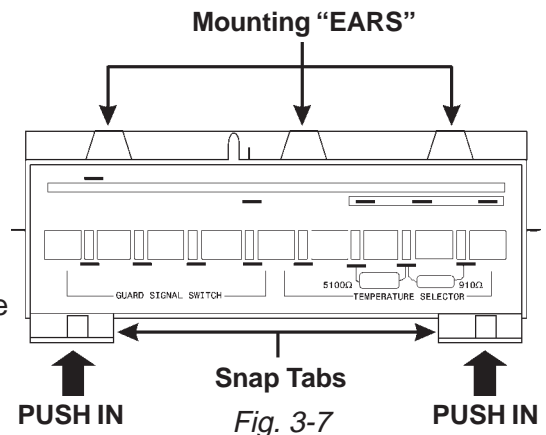

Fig. 3-7
3. Press in on the snap tabs as indicated in Fig. 3-7 and then pull the bottom of the switch assembly out from the console.